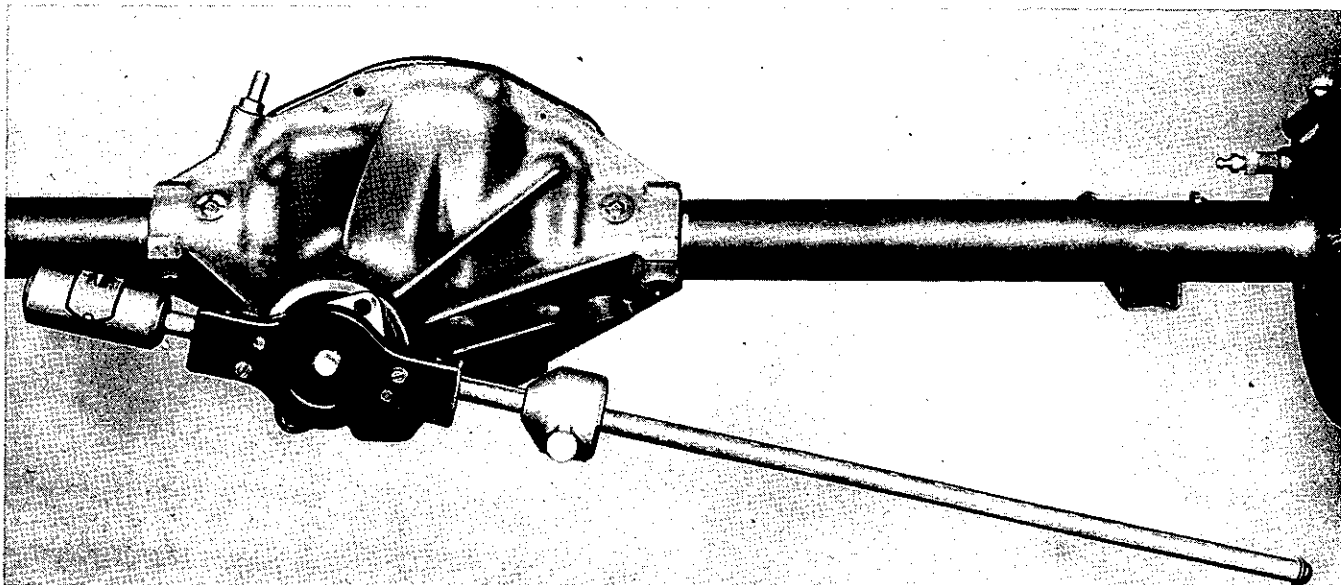

Fig. 21. Checking Pinion Bearing pre-load with Churchill Fixture—Tool No. 20S.M.98.
13. The fixture shown in Fig. 21 is now applied and the preload of the bearings checked. The correct preload should fall between five and seven inch lbs. If the preload is inadequate, shims must be withdrawn whereas if an excessive figure is obtained additional shims must be fitted.